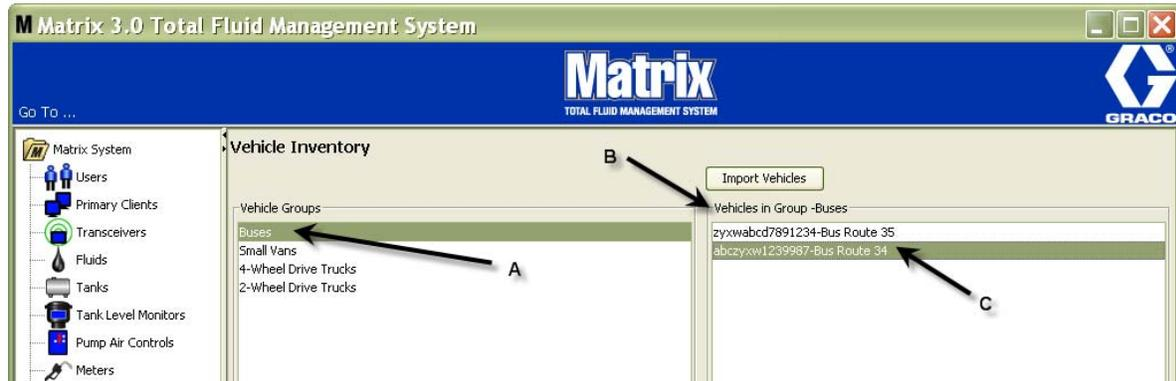

FIG. 169
7. The vehicles will only be displayed on the main Vehicle Inventory Screen when the specific group it is associated with is highlighted. In the example provided in FIG. 169 the Vehicle Group Buses is highlighted (A). Notice that the Group Name "Buses" has been added at the end of the Vehicles in Group column title (B) and the list displayed in that column only contains the Buses that are in the fleet inven-
Sections A, B, and C in FIG. 172 correspond to Sections A, B, and C in FIG. 169.